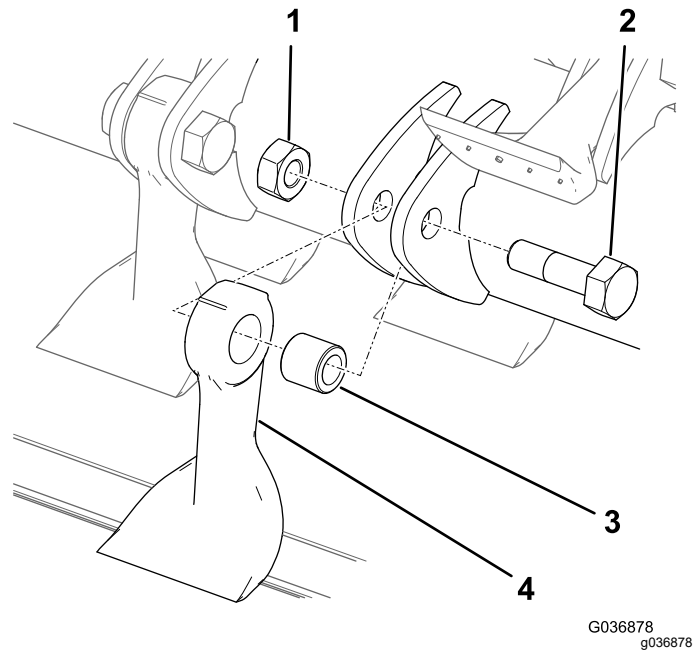

Figure 74
8. Holding the blade in a rag or padded glove, remove the nut, bolt, bushing, and blade (Figure 74).
10. Install a new blade and bushing with a new nut and blade bolt (Figure 74).